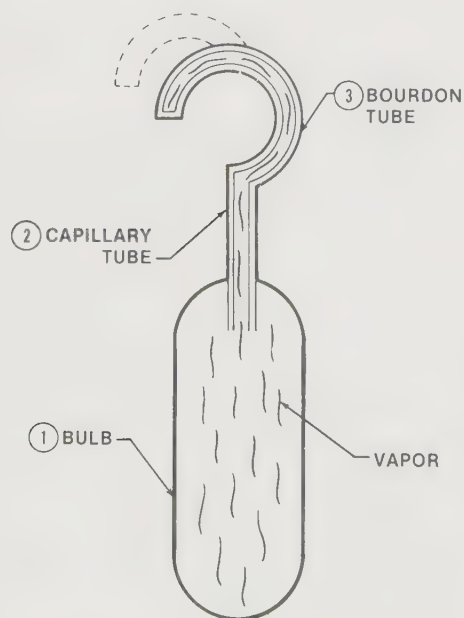

Figure 9-7. Nitrogen is the most commonly used gas in the gas-filled Bourdon tube thermometer.
The gas-filled Bourdon tube thermometer is similar to the liquid-filled type. See Figure 9-7. It is actuated by the expansion of the gas that fills the bulb (1), capillary tube (2), and Bourdon tube (3). Nitrogen gas is most commonly